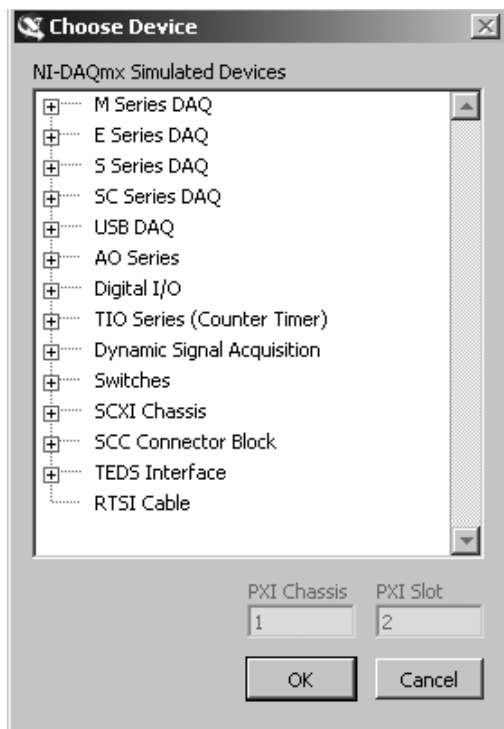

Figure 10.36
2. In the Choose Device dialog box (see Figure 10.36), use the tree control to browse to the device you want to simulate and then press the **OK** button. Devices are organized by family.